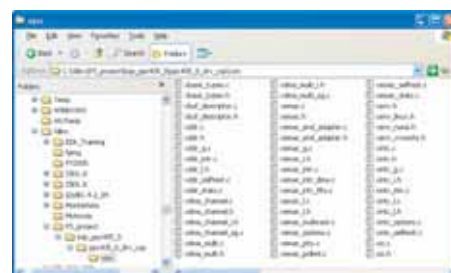

Figure 4 – Generated BSP directory structure
3. Generate the Tornado BSP by selecting the Tools > Generate Libraries and BSP menu option. The resulting BSP resembles a traditional Tornado BSP and is located in the Platform Studio project directory under `ppc405_0/bsp_ppc405_0` (see Figure 4).
This minor deviation is due to the dynamic nature of FPGA-based embedded systems. Because an FPGA-based embedded system can be reprogrammed with new or changed IP, the device driver configuration can change, calling for a more dynamic placement of device driver source files. The directory tree for the automatically generated BSP is shown in Figure 4. The Xilinx device drivers are placed in the `ppc405_0_drv_csp/xsrc` subdirectory of the BSP.